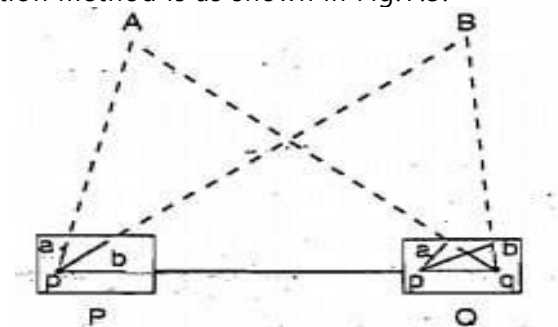

Fig.7.3 Plane table intersection Method
7.2 Plot a given area of land with the use of plane table by intersection method. Plotting of an area by intersection method is as shown in Fig.7.3.